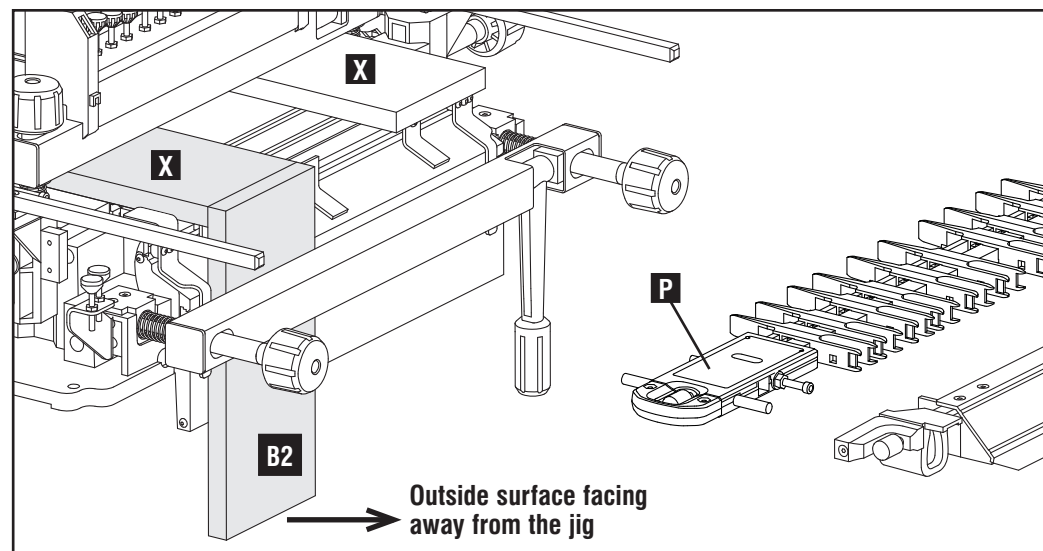

Fig. I14
1. Flip template over so the "B TAILS" label (P) Fig. I14 is on the left as you face the jig.
2. Remove the first board B1 and mount the second board B2, noting that the "outside surface" of second board B2 should now be facing away from the jig. (See Fig. I14) The horizontal scrap pieces (X) do not need to be moved and can remain in place to help reduce tearout when cutting the second board (B2).